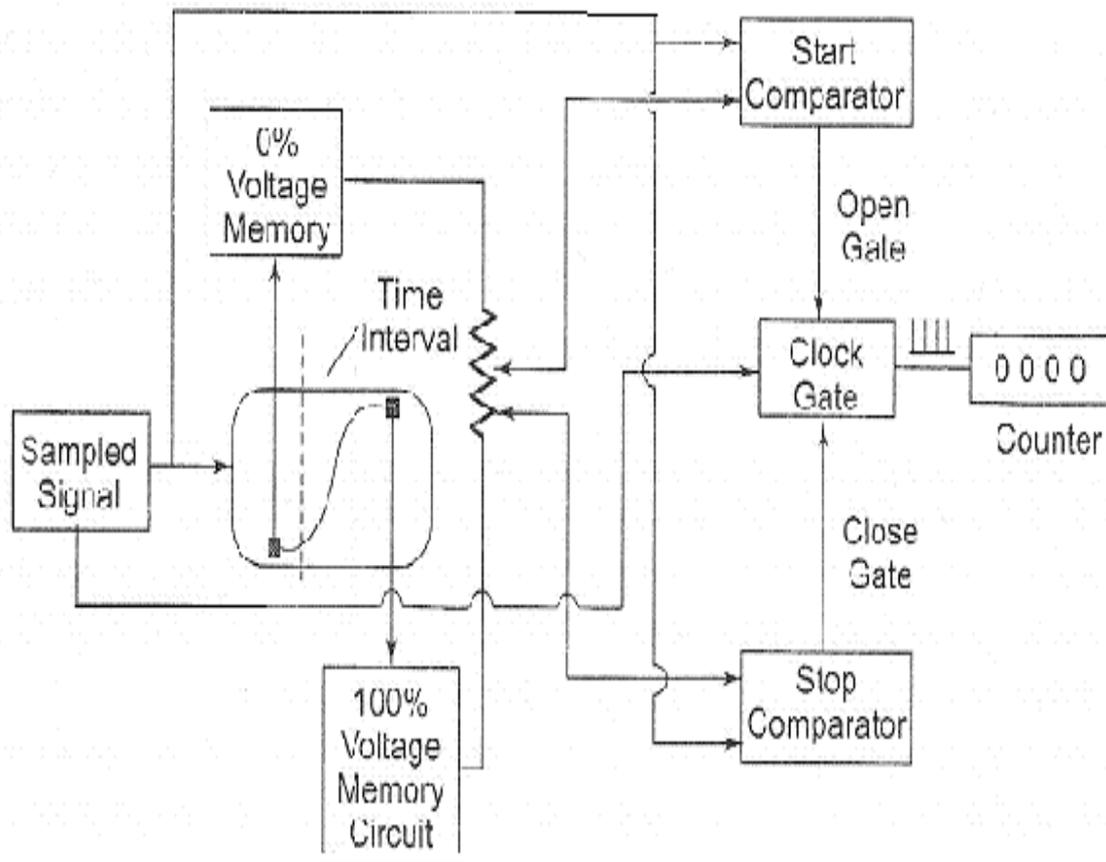

fig 9.1 Block diagram of a digital readout oscilloscope when measuring voltage
**Ans:** The digital read out oscilloscope instrument has a CRT display and a counter display. The diagram shown is of an instrument where the counter measures the time (Fig. 9.1)
Figure 9.1 shows a block diagram of a digital read out oscilloscope when measuring voltage. Two intensified portions of the CRT trace identify 0% and 100% zones position. Each zone can be shifted to any part of the display. The voltage divider  $B$  is between the 0% and 100% memory voltage